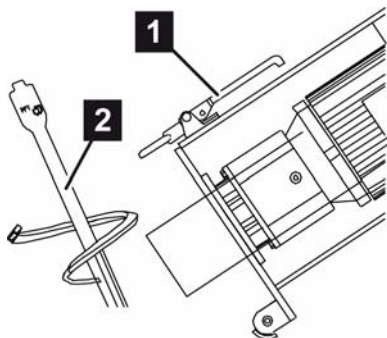

Fig. 40: Open the motor tilt flange
3. Open the quick lock (*Fig. 40/1*) on the motor tilt flange and tilt the motor.
4. Remove the mixing helix (*Fig. 40/2*) and clean it.